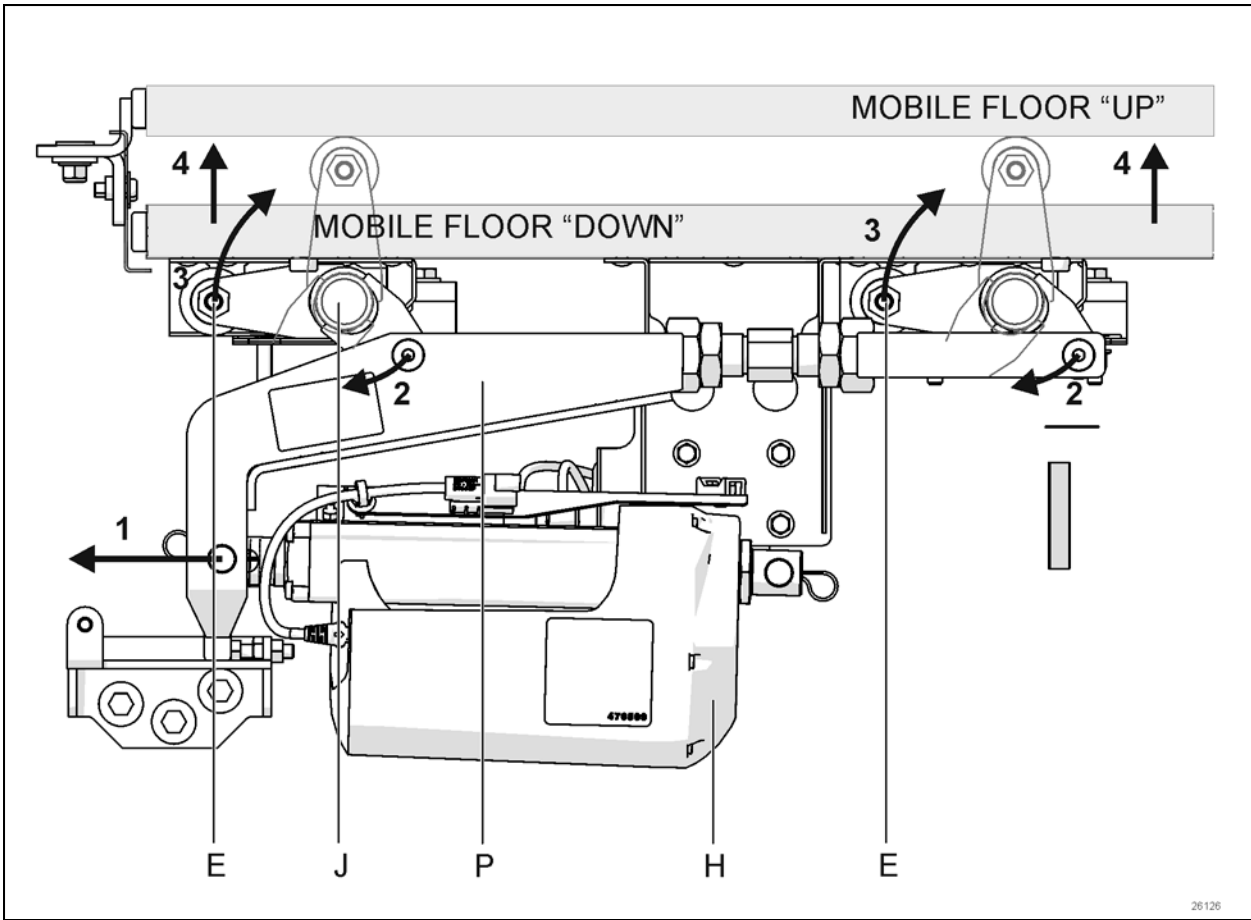

FIGURE 55: FLUSH FLOOR LIFTING
When the linear actuator extends (Figure 55, 1), the transfer arm rotates the floor lift shaft links inward (2), rotating at the same time the eccentric rollers upward (3), effectively lifting the mobile floor (4) The vertical movement of the floor is guided by a pair of vertical linear bearings (G).